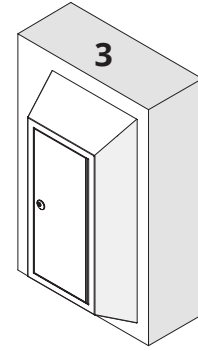

FIG 4
INSTALLATION SURFACE-MOUNT (3) CABINETS (FIG 4):